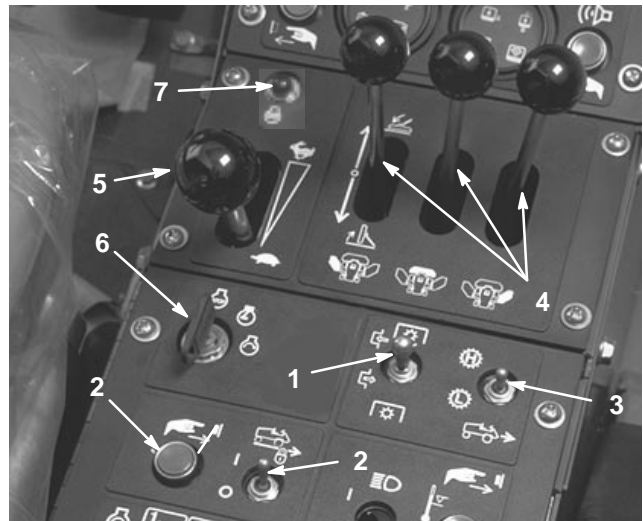

Figure 22
3. Rotate ignition key switch to START position (Fig. 22). Release key immediately when engine starts and allow it to return to RUN position.